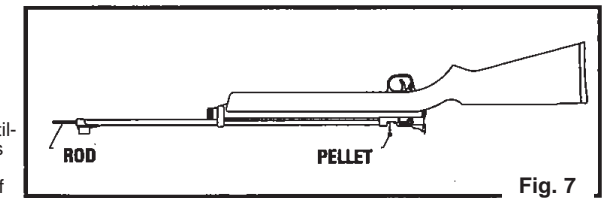

Fig. 7
- Insert a ramrod of the proper size into the barrel (start at the muzzle). (Fig. 7) The barrel could be damaged if the proper sized cleaning rod is not used.
- Push the pellet into the pellet loading port (forward of the bolt). (Fig. 7)
- Push the jammed pellet into the pellet loading port (forward of the bolt). (Fig. 7)